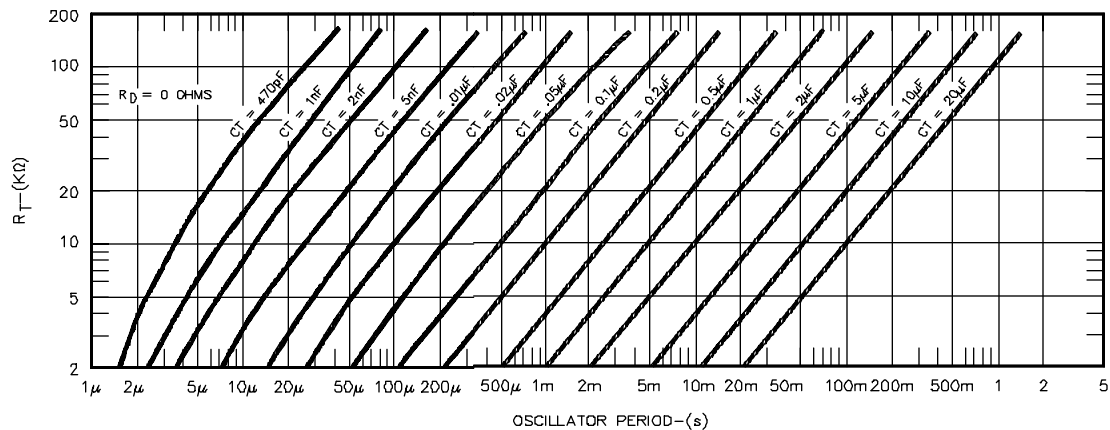

FIGURE 7.
1. With $R_D = 0\Omega$ (pin 11 shorted to ground) select values for R_T and C_T from Figure 7 to give the desired oscillator period. Remember that the frequency at each driver output is half the oscillator frequency, and the frequency at the $+V_C$ terminal is the same as the oscillator frequency.